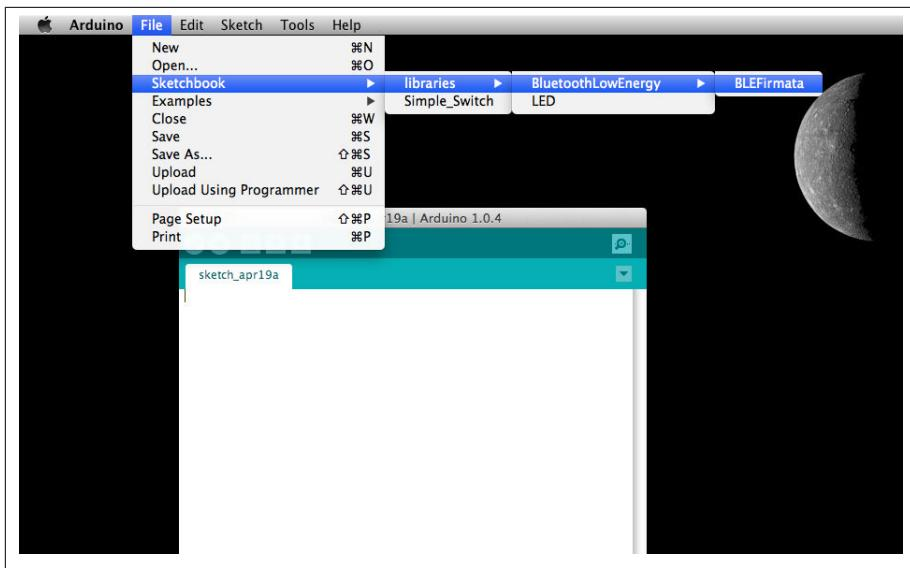

Figure 8-23. Open the BLEFirmata library
5. Open the BLEFirmata library (see Figure 8-23). It's in the submenu *File→Sketch-Book→libraries→BluetoothLowEnergy→BLEFirmata*.